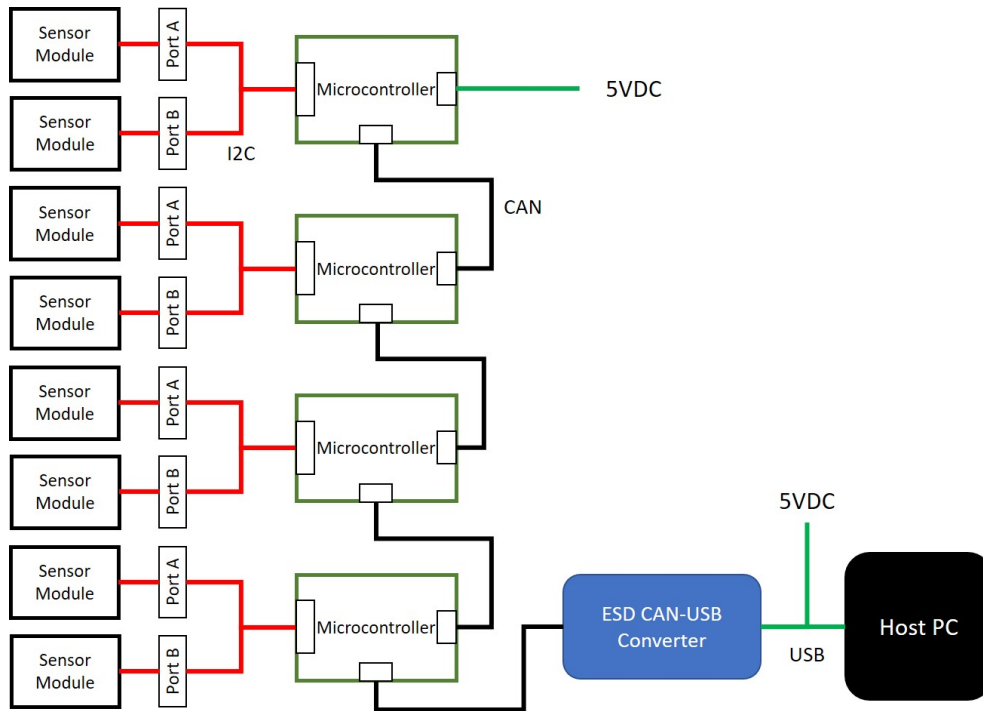

Figure 2: Connection diagram.
6. (Optional) Up to 8 Sensor Modules can be daisy-chained as in Fig. 2.